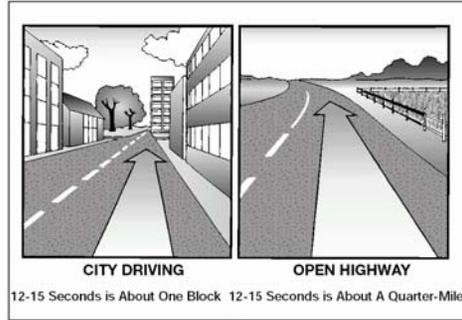

FIGURE 2.6
**How Far Ahead to Look.** Most good drivers look at least 12 to 15 seconds ahead. That means looking ahead the distance you will travel in 12 to 15 seconds. At lower speeds, that's about one block. At highway speeds it's about a quarter of a mile. If you're not looking that far ahead, you may have to stop too quickly or make quick lane changes. Looking 12 to 15 seconds ahead doesn't mean not paying attention to things that are closer. Good drivers shift their attention back and forth, near and far. Figure 2.6 illustrates how far to look ahead.